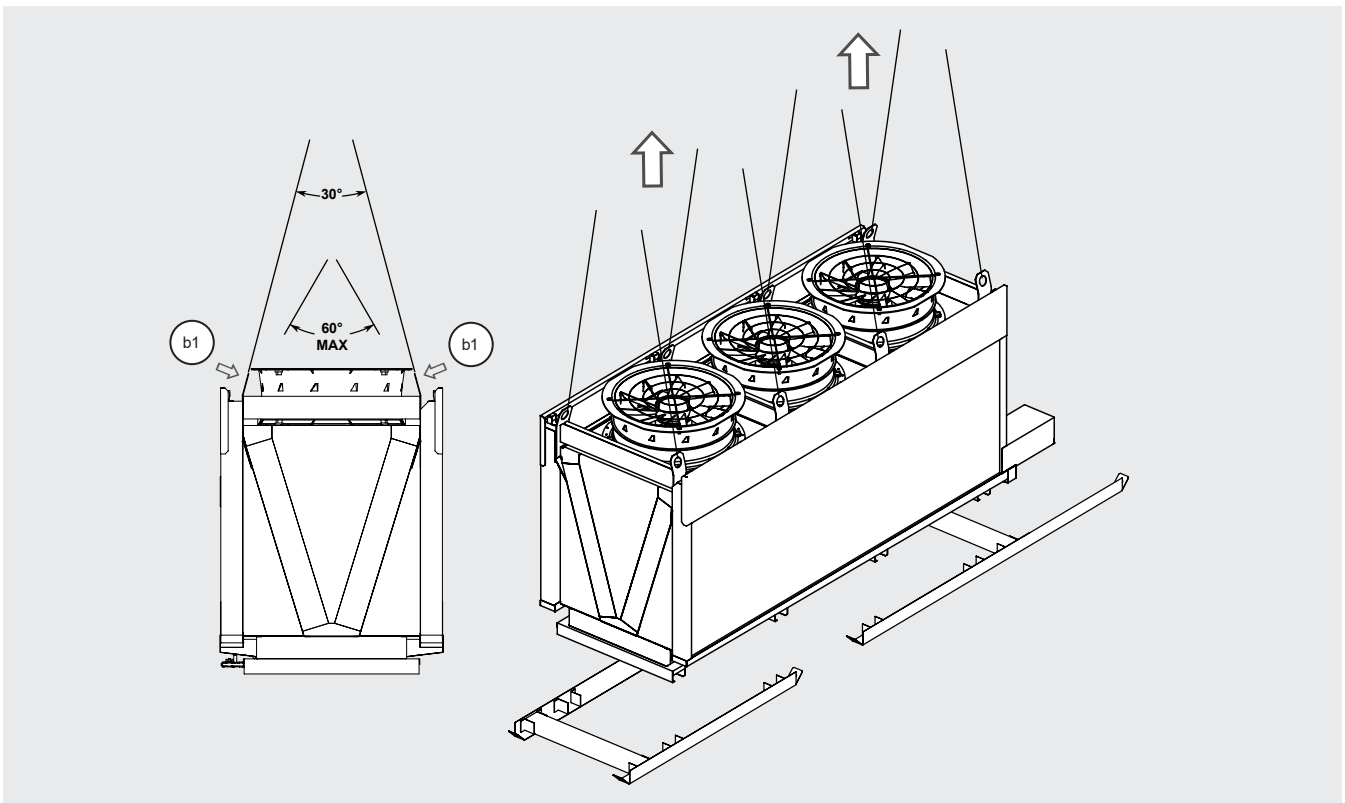

Figure 7
5.8 Attach the crane to lifting points (b1), lift the model and place it in its final location. Use all lifting points, see Figure 7.